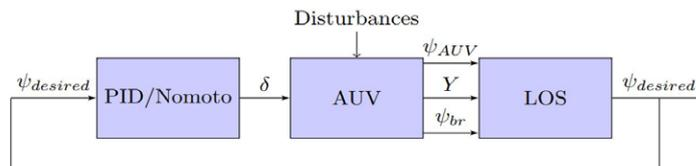

Figure 4: Control loop with autopilot and LOS guidance
An illustration of the LOS steering law is shown in Figure 4. The desired heading is the heading of the cable added with the heading to the meeting point  $\chi_r$ . The distance to this point is decided by tuning  $\Delta$ .
Figure 4 shows an illustration of the control loop when including the LOS-guidance in cascade with the autopilot.
An *agile* life cycle can be an alternative to the waterfall life cycle. Project approaches based on an agile life cycle model are commonly used. Agile life cycles are both iterative and incremental. This means both repeated activities and frequent small deliveries, as shown in figure 4. The goal for agile approaches is to deliver a continuous flow of value to customers and achieve better business outcomes. Feedback on each delivery is used when planning the next iteration. Agile approaches will follow the principles of the *Agile Manifesto* [4].
**Figure 4.** An agile life cycle is both iterative and incremental. It has early and continuous delivery of a valuable product, and allows feedback and adaption to high degrees of change.